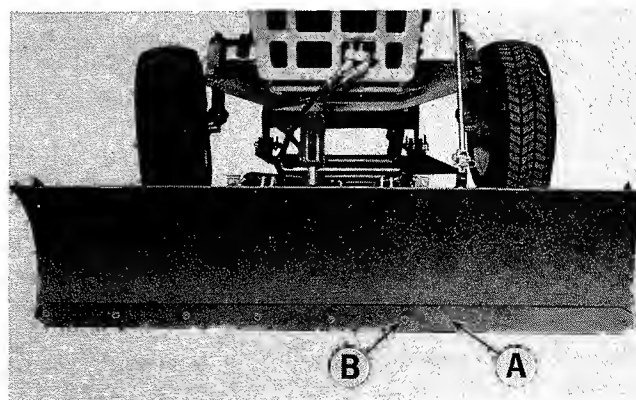

Figure 12. Front view of blade.
See figure 12. After considerable use, the lower portion of the blade wear plate may become worn. The life of the blade edge can be doubled by reversing the wear plate.
1. See figure 12. Remove the nine carriage bolts (B) which hold the wear plate (A) to the blade.
2. Remove wear plate (A) and turn it end for end, that is, put the left end of the wear plate at the right end of the blade.